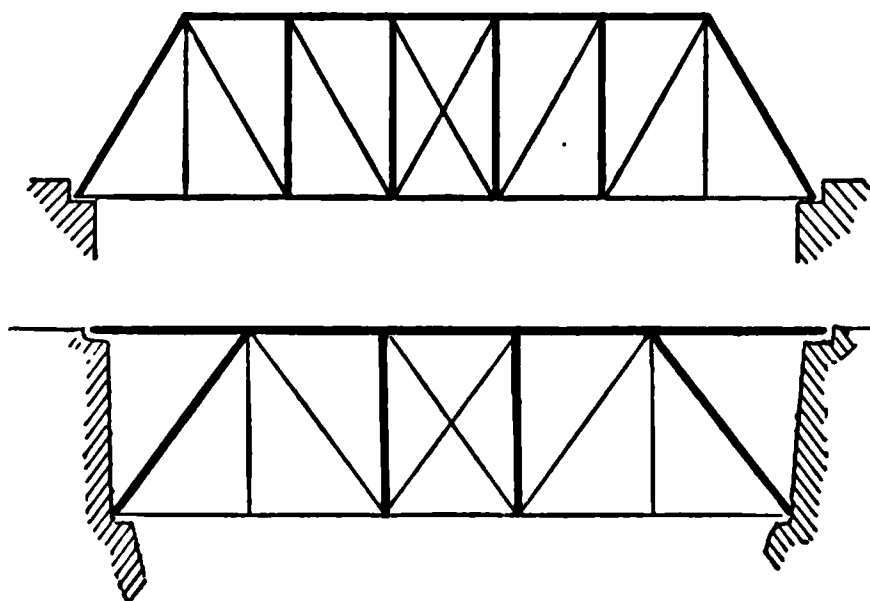

FIG. 123.—Diagrams of the bridges in the plate opposite page 114.
members and which tension, for the compression members are made broad and stiff with “latticing” up their sides, while the tension members are steel straps or rods with enlarged ends to give room for the holes. Thus the heavy lines in figure 123 indicate compression mem-
9. Examine the steel bridges in your neighborhood to see if they are "girder bridges" or "framed bridges," and, if any of them are framed, see whether they are pinned or riveted, and which members are compression members, and which tension. Make a sketch like those in figure 123 of one of these bridges, showing the compression members by heavy lines.